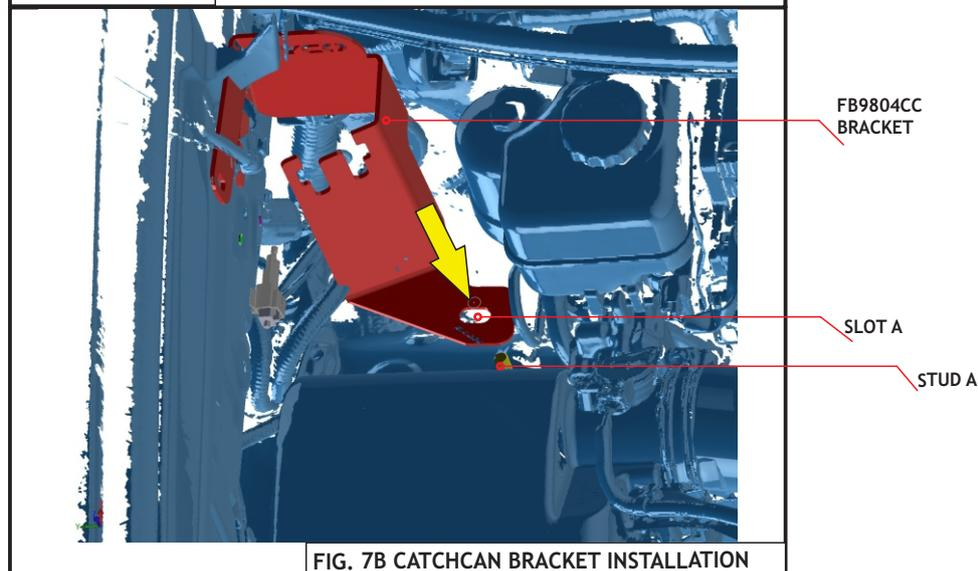

FIG. 7B CATCHCAN BRACKET INSTALLATION
3. Position the supplied FB9804CC catchcan bracket into engine bay as shown in Fig. 7b with stud A in slot A.